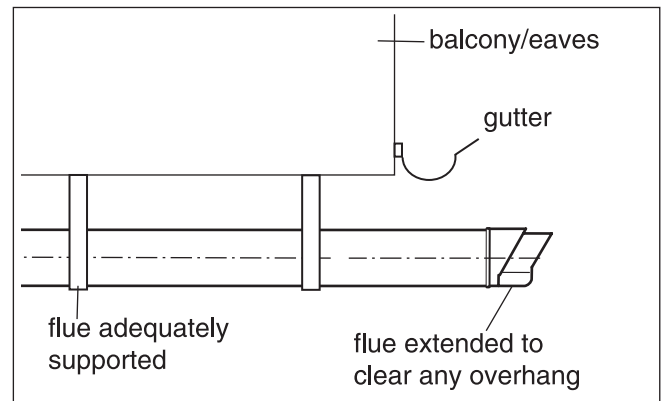

Fig. 3.7 Flue termination under balcony/eaves
1) Dimensions B, C and D: These clearances may be reduced to 25 mm without affecting the performance of the boiler. In order to ensure that the condensate plume does not affect adjacent surfaces the terminal should be extended as shown in Fig. 3.7.